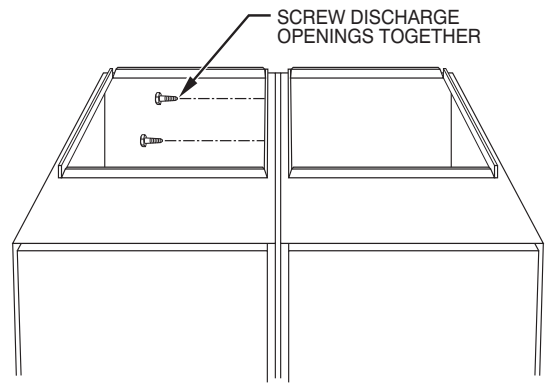
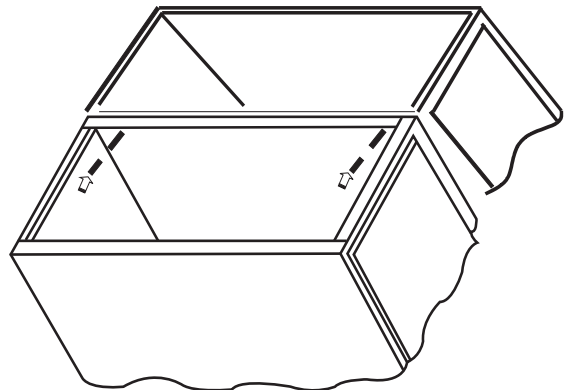

Fig. 7 – Furnaces Together at Discharge Opening
Fig. 8 – Attaching Furnaces Together at Return Air Opening
- Drill two 1/8-in. (3 mm) holes, approximately 1-in. (25 mm) below discharge air flange, from inside top of discharge opening and through both furnaces. (See Fig. 7)
- Drill two 1/8-in. (3 mm) holes, approximately 1-in. (25 mm) below return air flange, from inside top of return air opening and through both furnaces. (See Fig. 8)
7. Drill two 1/8-in. (3 mm) holes, approximately 1-in. (25 mm) below return air flange, from inside top of return air opening and through both furnaces. (See Fig. 8)
9. Drill two 1/8-in. (3 mm) holes, approximately 1-in. (25 mm) below discharge air flange, from inside top of discharge opening and through both furnaces. (See Fig. 7)
6. Drill two 1/8-in. (3 mm) holes, approximately 1-in. (25 mm) below return air flange, from inside top of return air opening and through both furnaces. (See Fig. 8)
8. Drill two 1/8-in. (3 mm) holes, approximately 1-in. (25 mm) below discharge air flange, from inside top of discharge opening and through both furnaces. (See Fig. 7)
- Drill two 1/8-in. holes, approximately 1 in. (25 mm) below discharge flange, from inside top of discharge opening and through both furnaces. (See Fig. 7) Drill two 1/8-in. holes, approximately 1 in. (25 mm) below return air flange, from inside top of return air opening and through both furnaces. (Use Fig. 8 as an example).